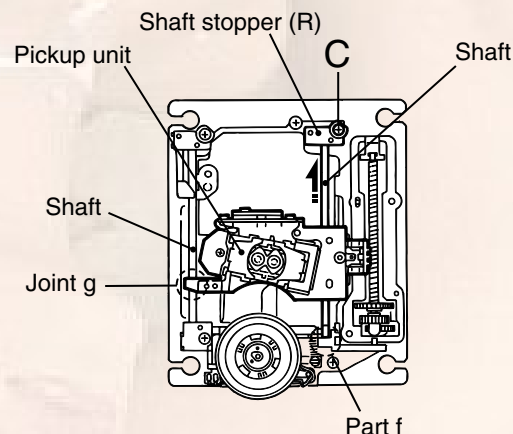

Fig.7
■ Removing the front panel assembly (See Fig.7 to 10)